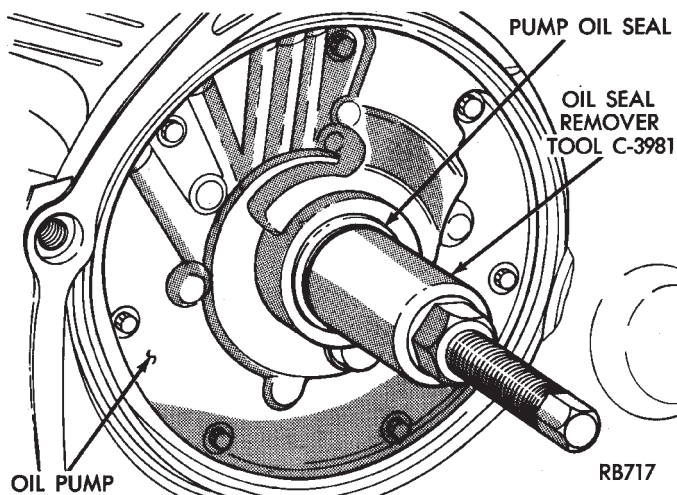

Fig. 1 Remove Pump Oil Seal
- (1) Screw seal remover Tool C-3981 into seal (Fig. 1), then tighten screw portion of tool to withdraw the seal.
- (2) To install a new seal, place seal in opening of the